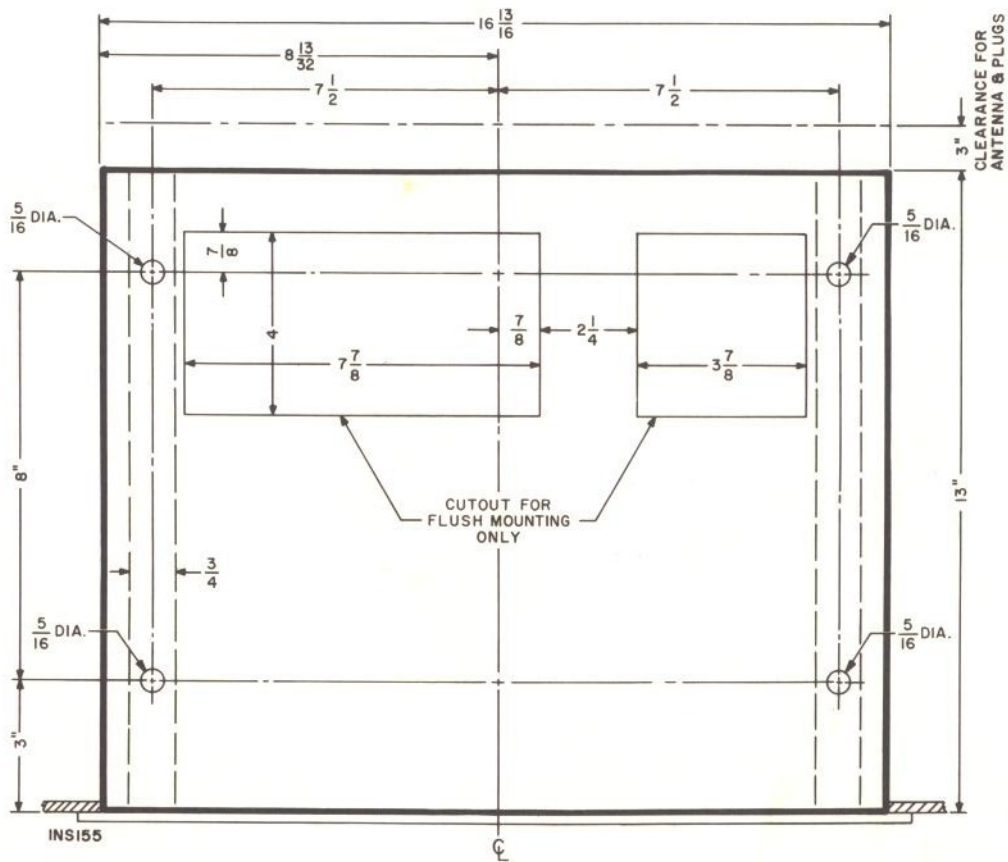

FIGURE 3. Top view of custom installation.
- 2 — Fasten the two cleats to the top of the mounting board with wood screws in the position shown in Figure 3. Screw heads should be flush with the top of the cleats. Then locate and drill four $\frac{5}{16}$ -inch holes through the mounting board and cleats as indicated.
If the height of the custom cabinet will not permit you to mount the 800-C by means of cleats, as described in the preceding section, the chassis may be mounted directly on the cabinet shelf. If the chassis is mounted in this way, however, it is essential that cutouts be made in the shelf as shown in Figure 3, and that the back of the cabinet remain completely open, in order to provide proper ventilation. For a flush-mounted installation, proceed as follows:
1—Locate and drill the four 5/16-inch holes in the bottom shelf of the custom cabinet as indicated in Figure 3.
2—Saw cutouts in the bottom shelf following the outlines shown in Figure 3. It is absolutely essential that these cutouts be made as indicated so that the necessary ventilation will be supplied to the 800-C chassis.